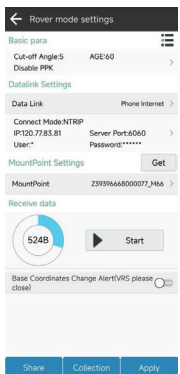
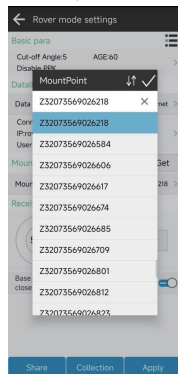

Figure 2.4-1
Figure 2.4-6
Click on "Device" → "Rover," as shown in Figure 2.4-1. GNSS positioning devices can calculate position coordinates by receiving satellite signals. Under certain atmospheric conditions, the device can only achieve single-point positioning with limited accuracy. To ensure high-precision positioning, in addition to satellite signal reception by the GNSS device, it needs to receive signals from another fixed GNSS device nearby. This secondary device's signal serves as a reference signal. By using the reference signal's known coordinates and atmospheric influence, the two sets of GNSS devices can calculate high-precision positions. The stationary GNSS device is called the base station, while the mobile one is referred to as the rover. The data transmitted from the base station to the rover is termed differential data, and the transmission method is known as a data link. Setting the rover mode configures the GNSS device as a rover. It involves transmitting the base station's GNSS satellite signals to the GNSS device through specific means, achieving high-precision positioning.
1.Rover Network: As shown in Figure 2.4-1, this involves obtaining differential data through the network of the device where the software is installed. It retrieves data from a specified server address using a protocol, then sends it to the GNSS device via the software's communication connection for high-precision calculation. Clicking on the parameters allows you to modify and edit the settings, similar to host network configuration. No APN parameters need to be configured. Once parameters are set, obtain access points and select the desired one for connection, as shown in Figure 2.4-6. Start the connection process; if configurations are correct, the data reception progress bar will show activity. If the progress bar doesn't move, review your settings.